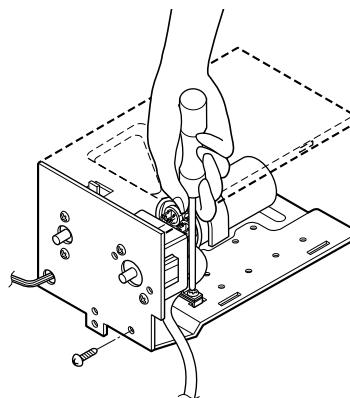

Figure 10
5. Remove a screw which fastens the clip cord. (See Figure 10)